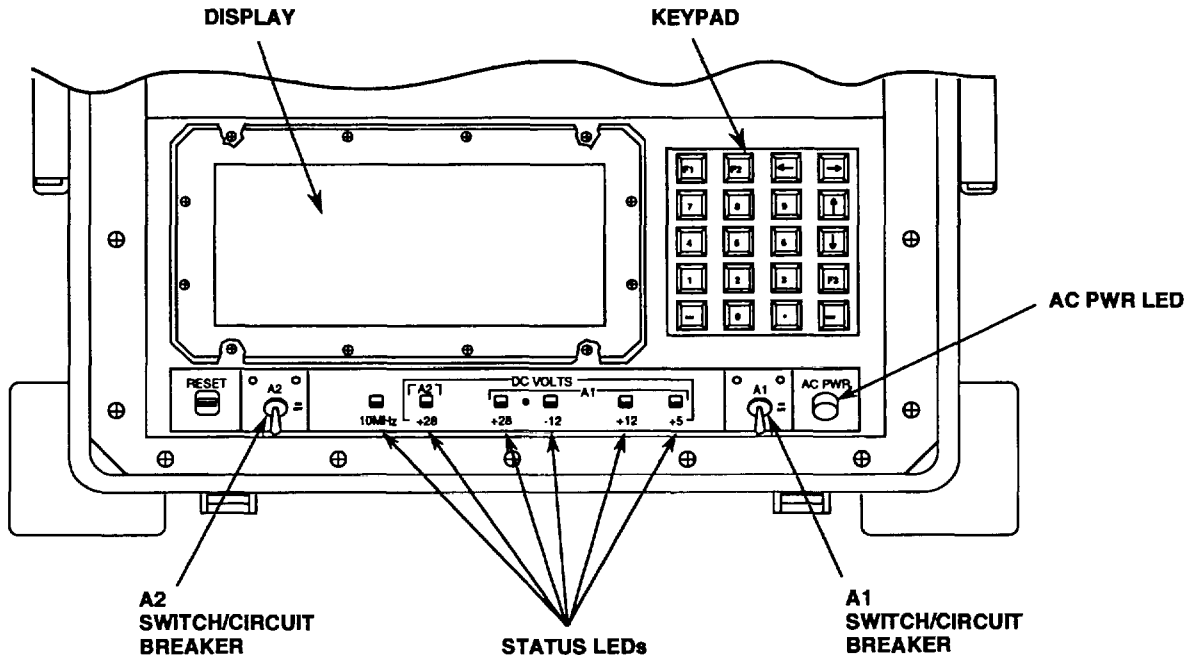
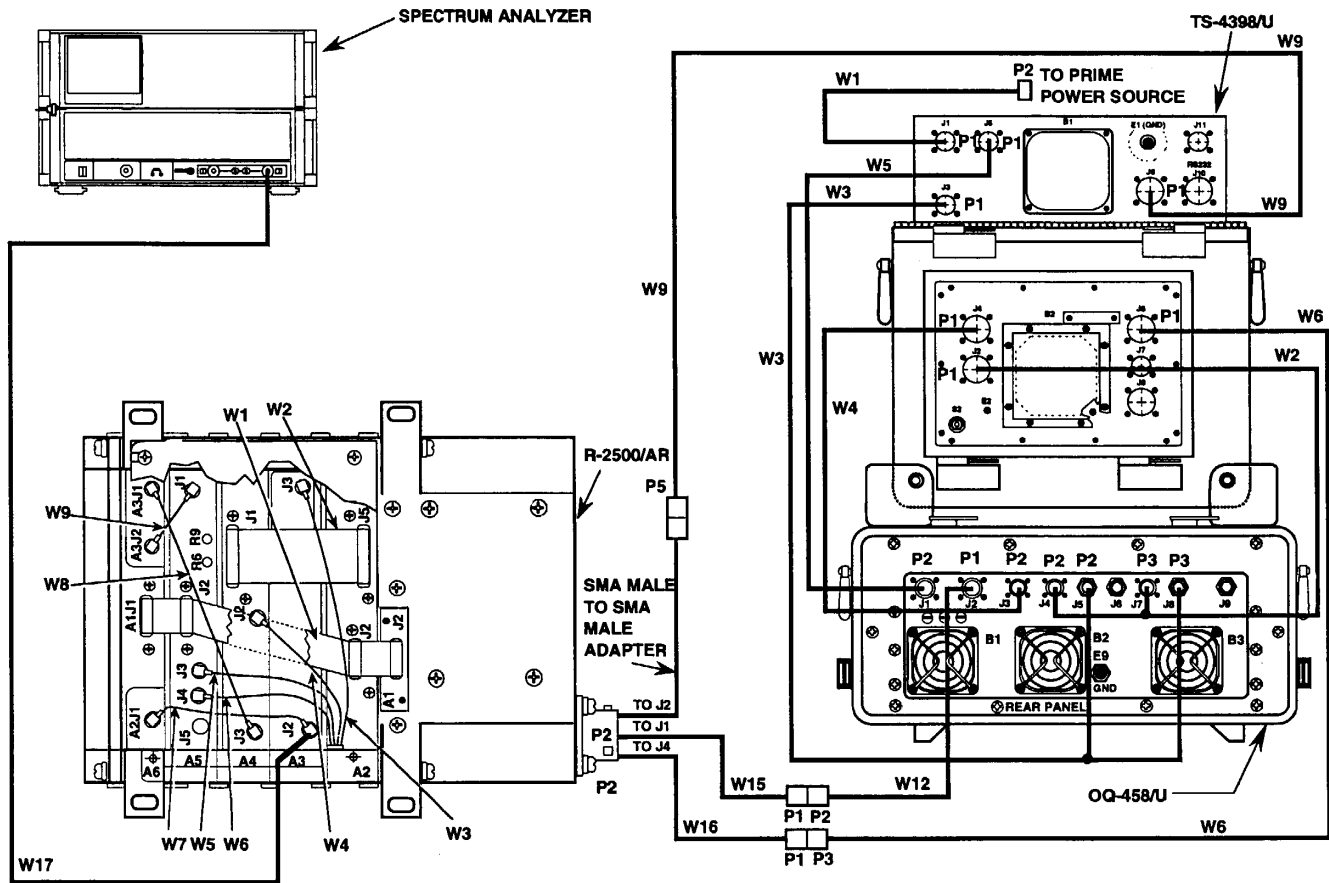
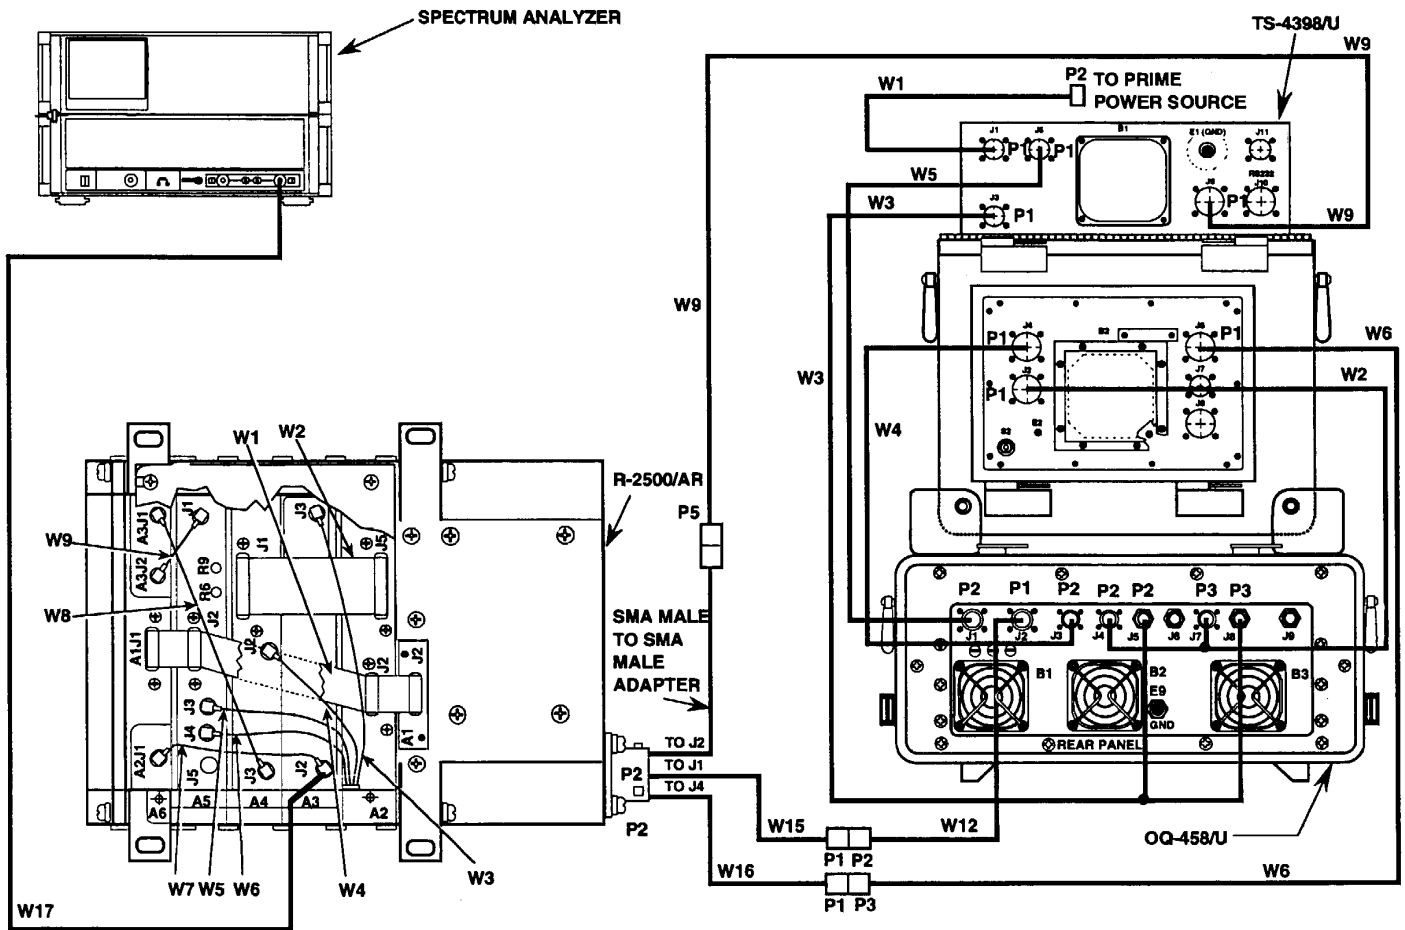
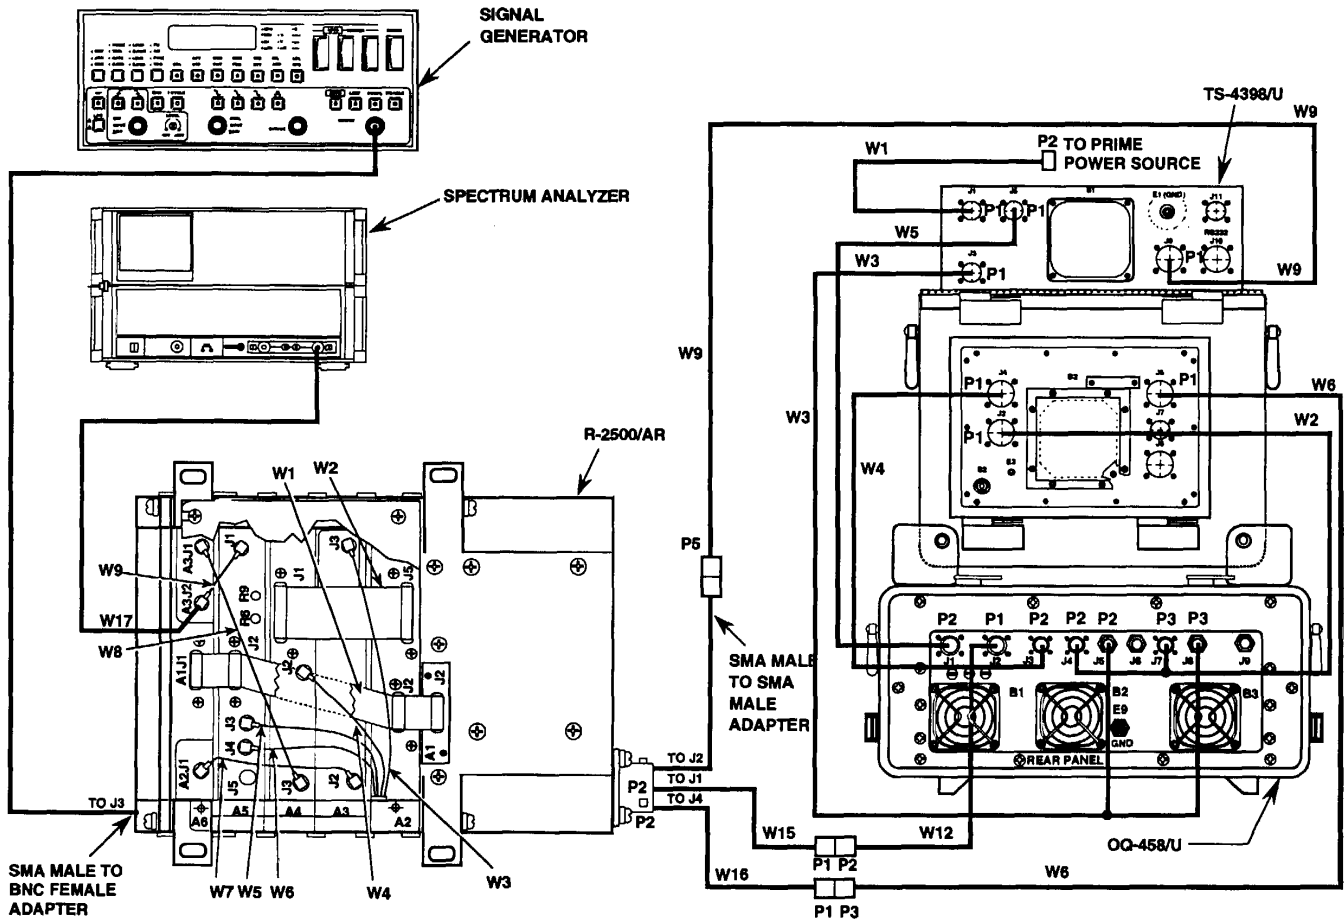

Figure 5-63. TS-4398/U CONTROLS AND INDICATORS.
FIGURE 5-64. R-2500/AR INSUFFICIENT IF OUTPUT LEVEL ON TWO OR MORE BANDS TEST INTERCONNECTIONS.
FIGURE 5-65. R-2500/AR A4J3 OUTPUT TEST INTERCONNECTIONS.
FIGURE 5-66. R-2500/AR A6A3J2 OUTPUT TEST INTERCONNECTIONS.
The interconnections for the insufficient IF output level on two or more bands test are shown in figures 5-64 through 5-66. The test controller TS-4398/U controls and indicators used during the test are shown in figure 5-63. Figure 5-64 shows the R-2500/AR insufficient IF output level on two or more bands test interconnections. Figure 5-65 shows the R-2500/AR A4J3 output test interconnections. Figure 5-66 shows the R-2500/AR A6A3J2 output test interconnections.
4.	Repeat items 1 thru 3 for the remaining frequencies in table 5-6.
8.	Connect W17P1 to A4J3. (See figure 5-65.)
11.	Repeat items 9 and 10 for the second frequency in table 5-6.
14.	Connect J3 on R-2500/AR and to the signal generator output. (See figure 5-66.)